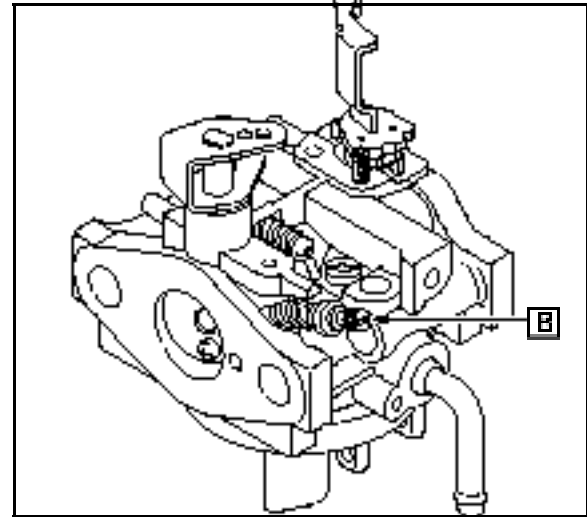

Fig. 77
7. Pry off the idle mixture valve limiter ([A] Fig. 77).
8. Remove the idle mixture screw ([B] Fig. 77).